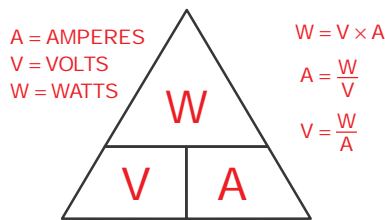
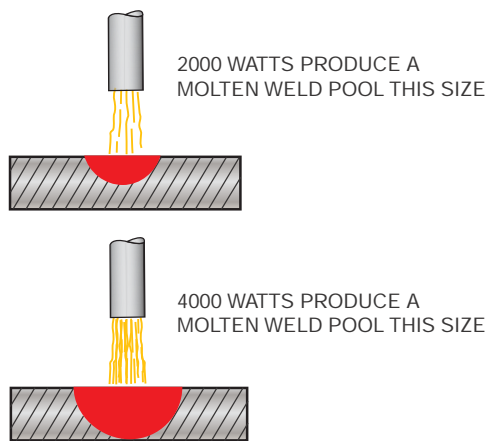

FIGURE 8-3 Ohm's Law. © Cengage Learning 2012
FIGURE 8-4 The molten weld pool size depends upon the energy (watts), the metal mass, and thermal conductivity. © Cengage Learning 2012
- **Voltage**, or volts (V), is the measurement of electrical pressure in the same way that pounds per square inch is a measurement of water pressure. Voltage controls the maximum gap that the electrons can jump to form the arc. A higher voltage can jump a larger gap. Welding voltage is associated with the welding temperature.
- **Amperage**, or amps (A), is the measurement of the total number of electrons flowing, in the same way that gallons are a measurement of the amount of water flowing. Amperage controls the size of the arc. Amperage is associated with the welding heat.
- **Wattage**, or watts (W), is a measurement of the amount of electrical energy or power in the arc. Watts are calculated by multiplying voltage (V) times amperes (A), Figure 8-3. Watts are associated with welding power or how much heat and temperature an arc produces, Figure 8-4.